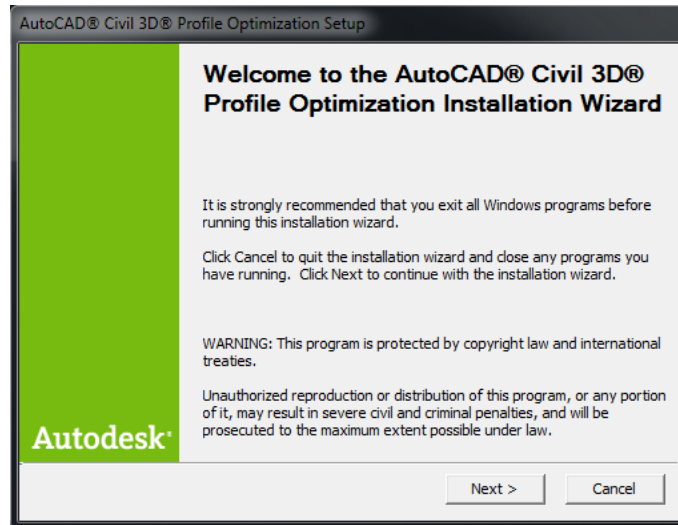

Figure 1: Start installation
2. In the installer window, click Next (see Figure 1).